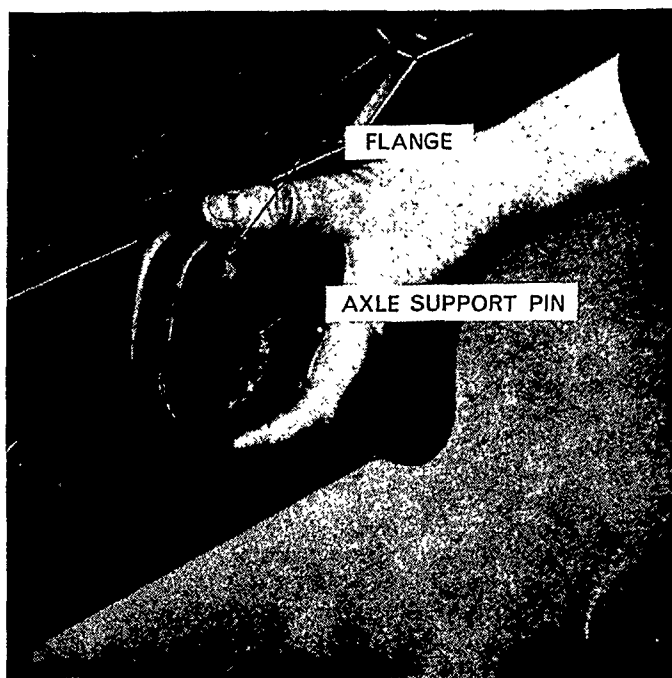

Figure 6
9. Install the hub retaining washer on the wheel spindle, locating the tab with the keyway in the spindle. Figure 6.
3. Tighten the front axle support pin to the specified torque and install the front axle pin flange and retaining bolt, Figure 6.